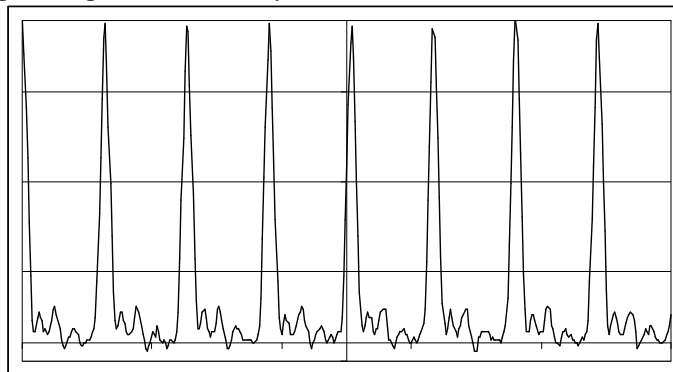

Fig. 4 Oscillator frequency signal
A small portion of the oscillator output beam (leakage of a mirror in the stretcher) is directed towards diode 1. Diode 1 delivers the oscillator repetition rate from which the reference frequency (locked CE-phase drift) will be derived. It is connected to the divider input of the locking electronics (LE) box. The output signal of the diode (a) should be checked on an oscilloscope with 50 Ω termination. A stable and clean pulse train should be visible according to fig. 4. The amplitude must be more than 200 mV.